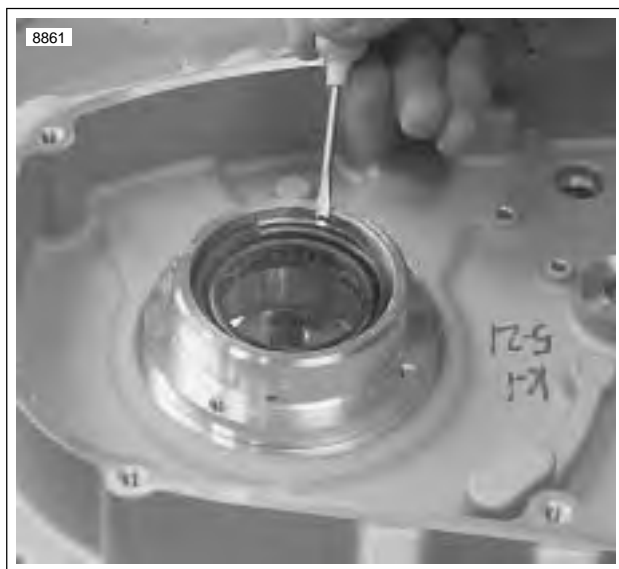

Figure 3-139. Left Main Seal Retaining Ring
- See Figure 3-139. Remove left main oil seal retaining ring.